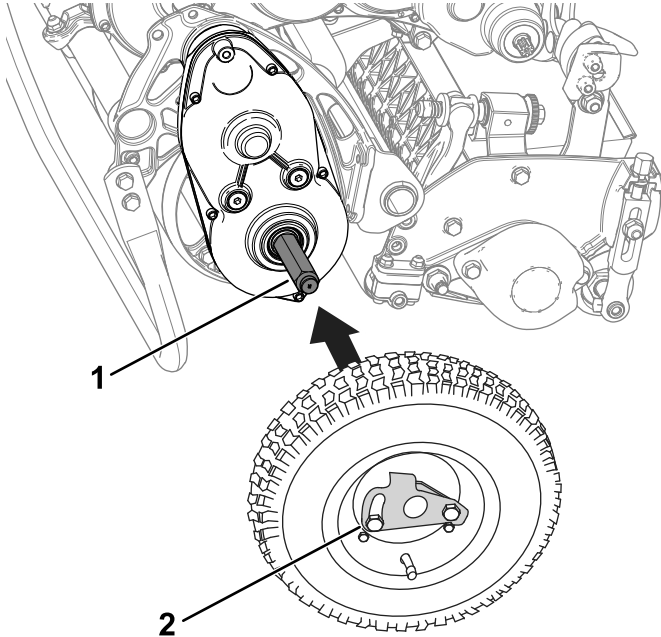

Figure 21
2. Slide a wheel onto an axle (Figure 21).
3. Pivot the wheel-locking clip (Figure 21) away from center of the wheel, allowing it to slide farther onto the axle.